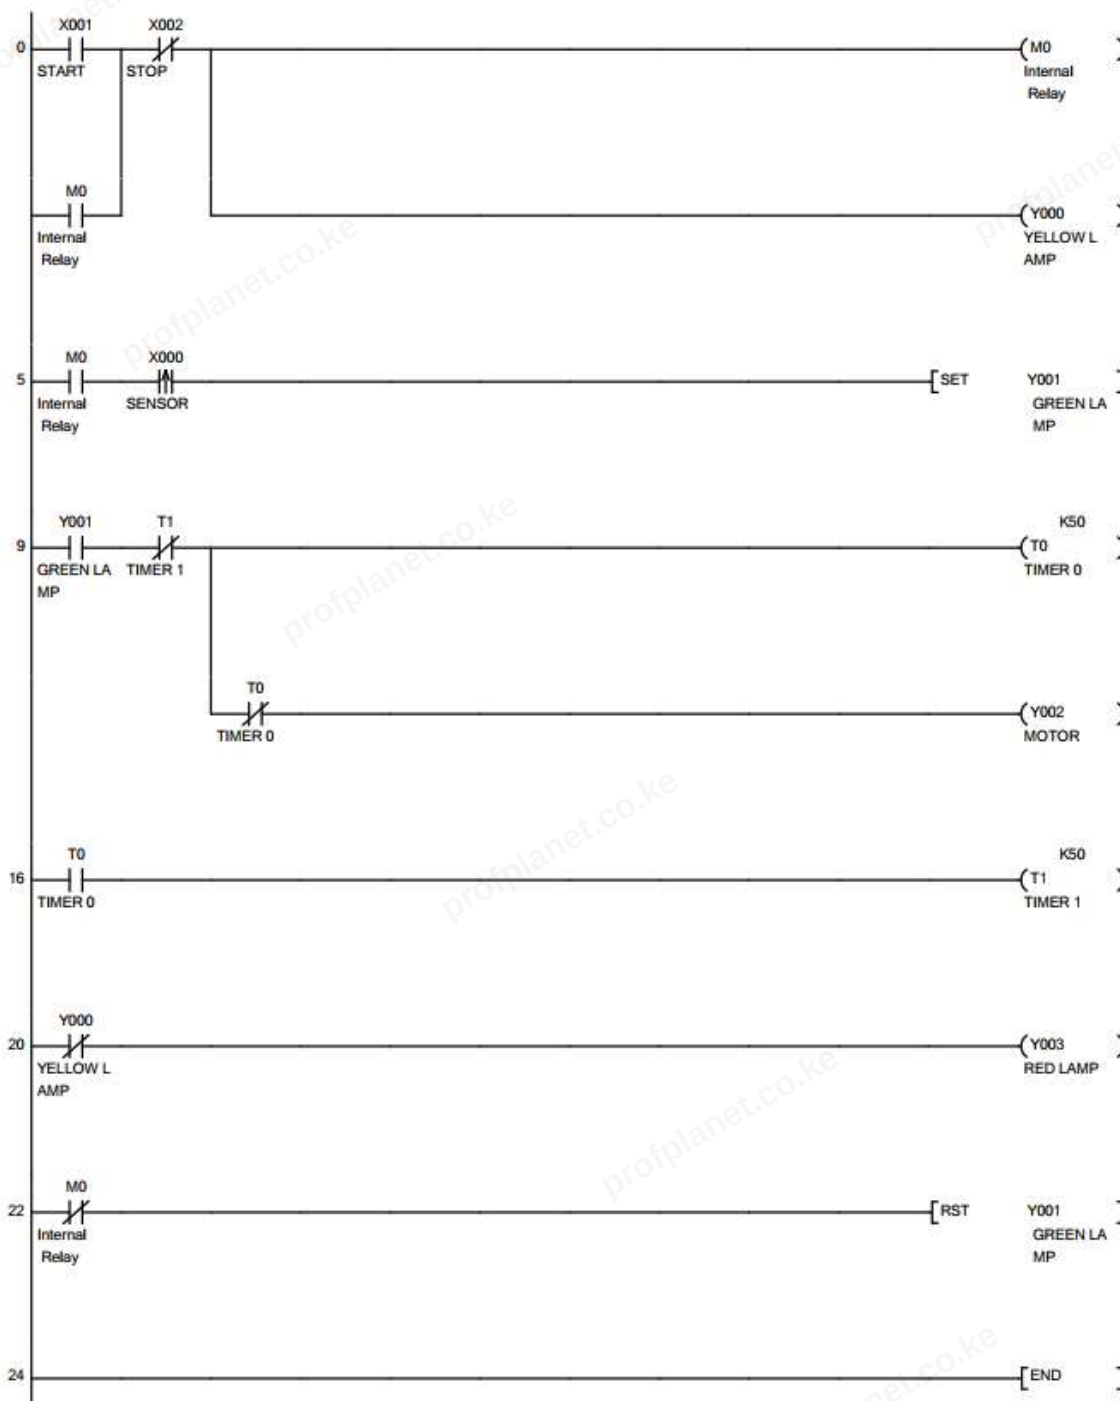

Figure 2
- i. Copy PLC program shown in *figure 2* on the provided software to perform the following operations;